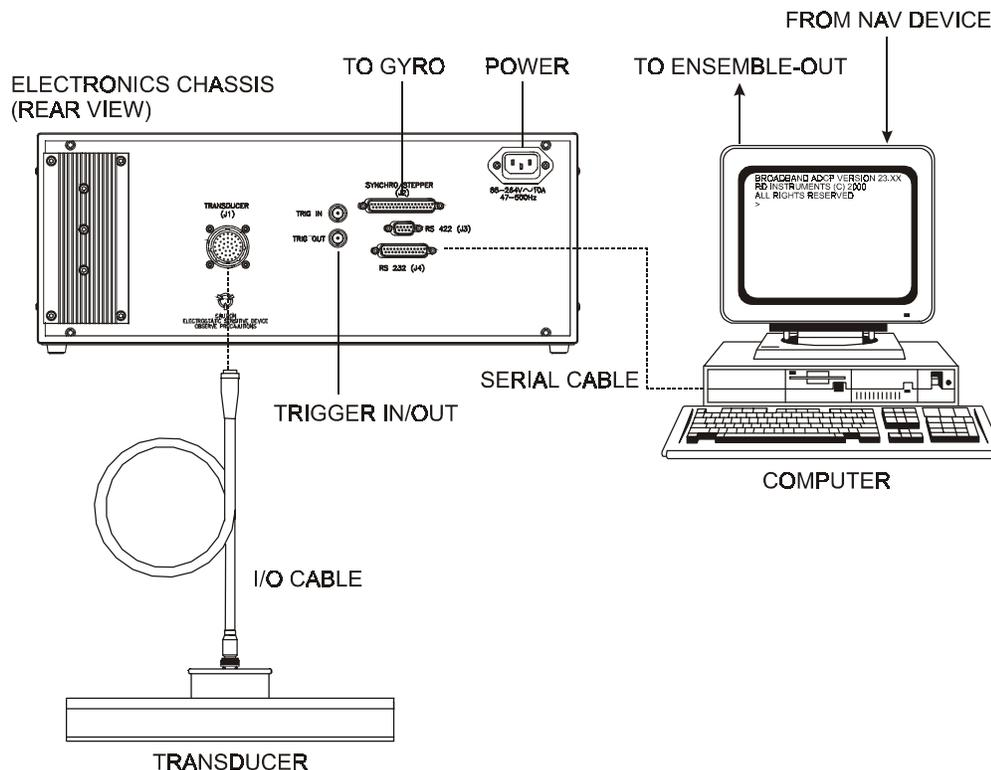

Figure 1. Ocean Surveyor Connections
- a. Interconnect and apply power to the system as shown in Figure 1, page 3.